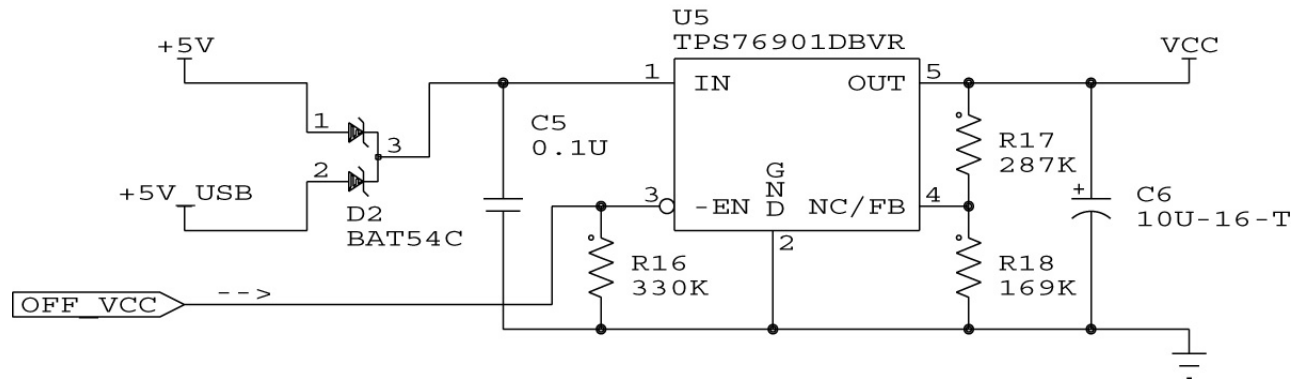

Figure 3: Multiple 5V Sources Feeding Ultralow-power 3.3V LDO Linear Regulator
- Because the Flight Module runs at 3.3V, and system power is supplied at 5V, we have the opportunity to feed the 3.3V LDO from a multitude of 5V sources, via a simple Schottky diode drop. Therefore the Flight Module is powered from system 5V or USB 5V, whichever is present (Figure 3).